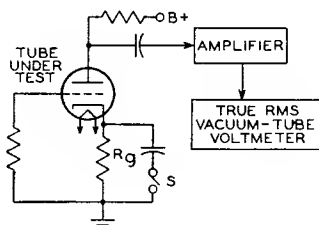

Fig. 99
**Hum and noise** characteristics of high-fidelity audio amplifier tube types such as the 7025 and the 7199 are tested in an amplifier circuit such as that shown in Fig. 99. The output of the test circuit is fed into a low-noise amplifier. The bandwidth of this amplifier depends on the characteristic being measured. If hum alone is being tested, a relatively narrow bandwidth is used to include both the line frequency and the major harmonics generated by the tube under test. In noise or combination hum-and-noise measurements, the bandwidth is defined in the registration of the tube type.